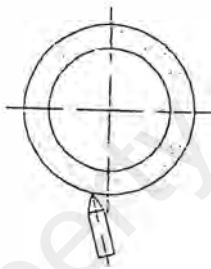

Fig. 6-13
- (1) Form the correct angle between the new diamond dresser and the grinding wheel (approx. 5 degrees) (see Fig. 6-13)